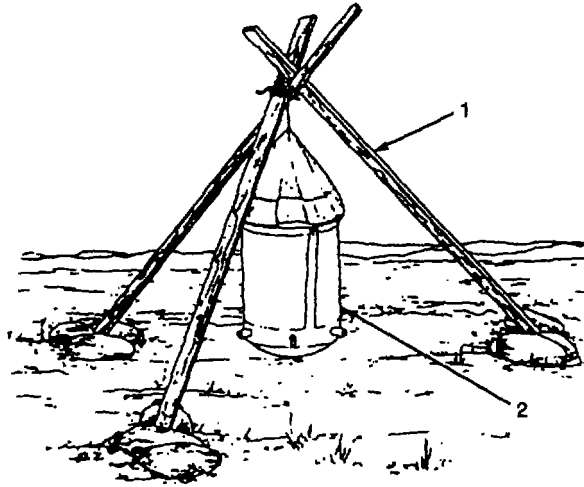

Figure 2-28. Potable Water Storage Bag
- (46) Using locally available materials, construct tripod supports (1, Figure 2-28) on which to hang drinking water storage bags (2). Hang water bags on tripods.